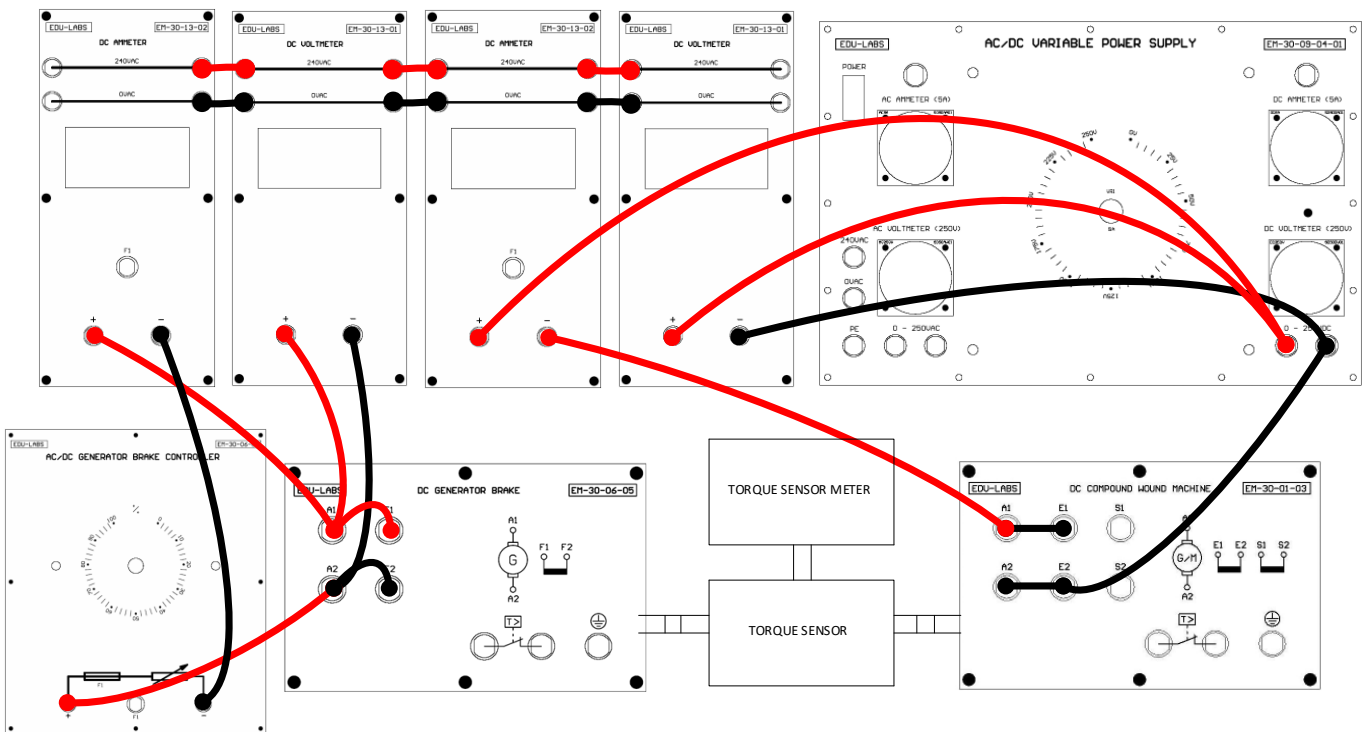

Fig 6.1: Wiring Diagram
1. Connect as shown in Fig 6.1.